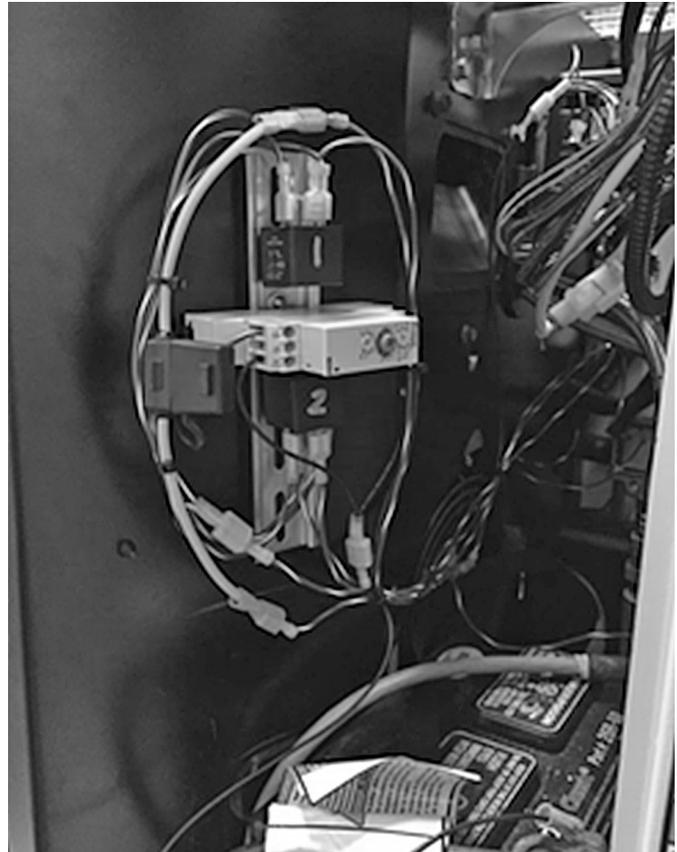

Figure 3-4.
5. Wire relays and timer per wiring diagram (see Figure 3-4 and chart).